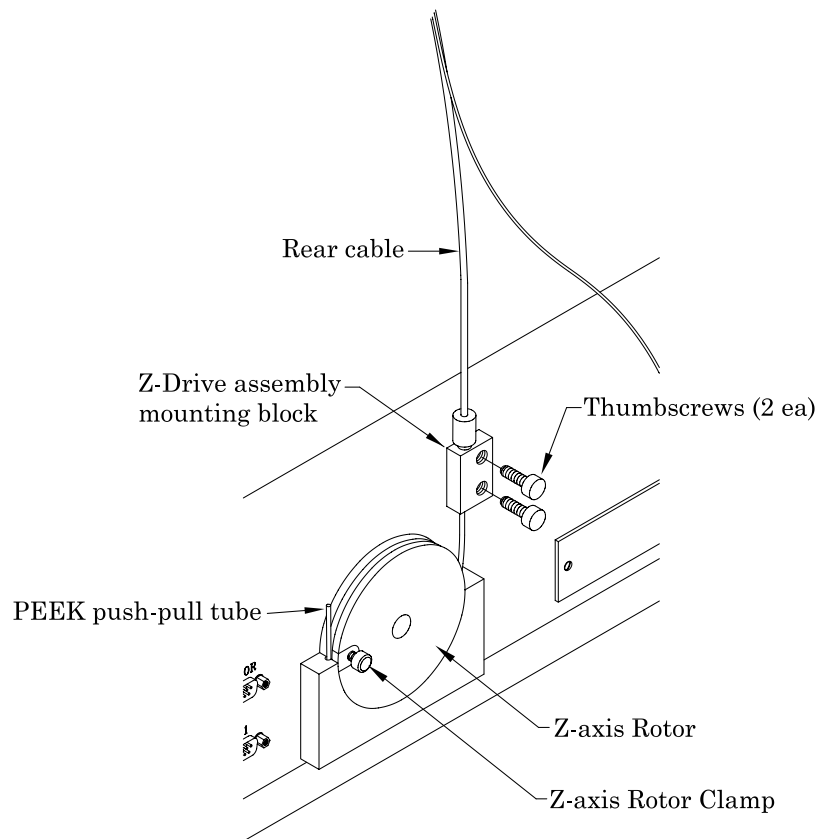

Figure 3-2. Back View of Auto Sampler Showing Z-Axis Rotor and Mounting Blocks.
- 1 Loop the 1.5-millimeter OD PEEK pull-pull cable around the bottom of the Z-axis rotor groove (Figure 3-2). See important caution message below!***
- 2 Rotate the z-axis rotor (Figure 3-2) clockwise so the rotor stop pin is against the rotor stop.***